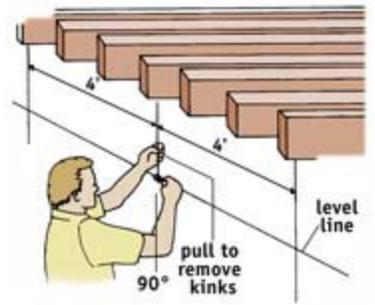

Figure 11 Add a suspension wire every 4' along the level line and bend at a 90° angle
- h) Attach a suspension wire every 4' along the level guideline (Fig. 11). Stretch each wire to remove any kinks and make a 90° bend where the suspension wire crosses the level line.